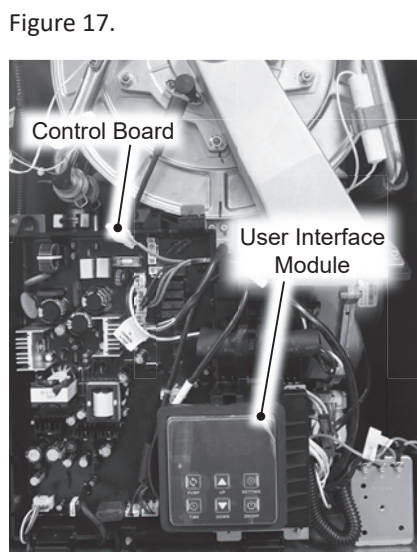

Figure 17 - User Interface Module
- 5 Locate the user interface module on the bottom front of the water heater. See Figure 17.
13 Locate the control board on the bottom front of the water heater. See Figure 17.